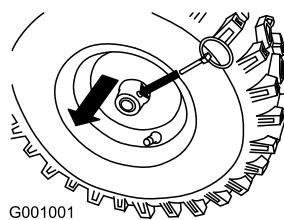

Figure 9
17. To operate the snowblower using the self-propel feature, slide the wheels outward and insert the axle pins through the holes in the wheel hubs and the inner axle holes (Figure 9).